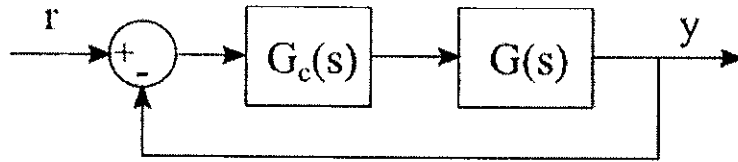

Figure Q4
- Q4 a) i) Consider the closed-loop control system shown in Figure Q4. The reference, r in this system is a unit step. What types of compensators can be used for $G_c(s)$ for the following purposes?
- ii) Consider the closed-loop control system shown in Figure Q4. The reference r in the system is a unit step. Prove that the steady state error of this system can be driven to zero when Proportional plus Integral (PI) compensator is used. Assume that $G(s)$ does not contain a zero at the origin.
- b) Consider the closed-loop control system shown in Figure Q4 where